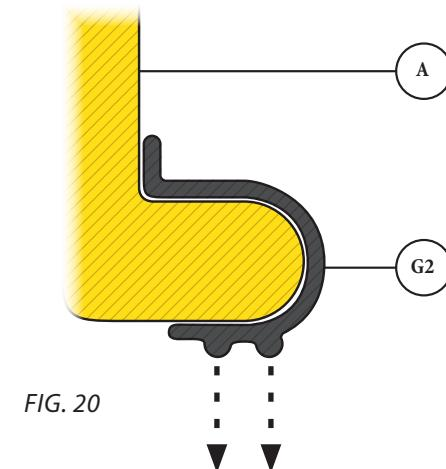

FIG. 20
- 20 Install the Barrel Gasket (G2) onto the rounded, bottom edge of the Motor Assembly (A). The Barrel Gasket (G2) should be oriented so that the "ribbed" side is facing downwards [FIG. 20].